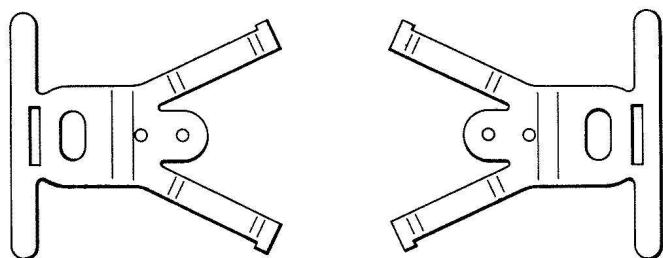

Fig. 27 — 74A Bracket
3.04 The 74A bracket (Fig. 27) is used in mounting the 541A jack to an electrical outlet box. It is also used as a component of the 547A jack. The 74A bracket consists of two identical metal brackets.